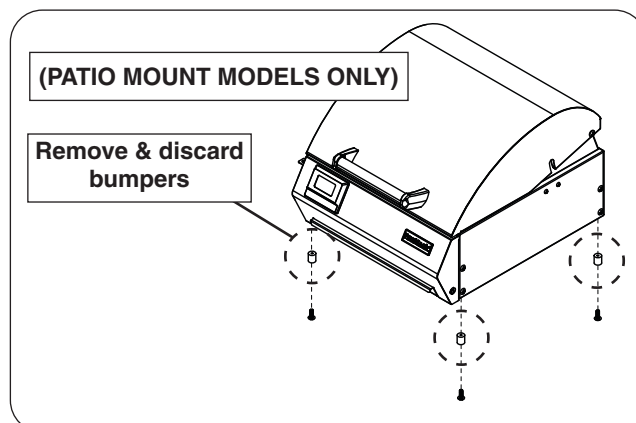

Fig. 12-2 Remove bumpers (if applicable)
2. Using a Phillips screwdriver, remove the four screws and bumpers on the bottom of the grill. Discard the bumpers. See Fig. 12-2.